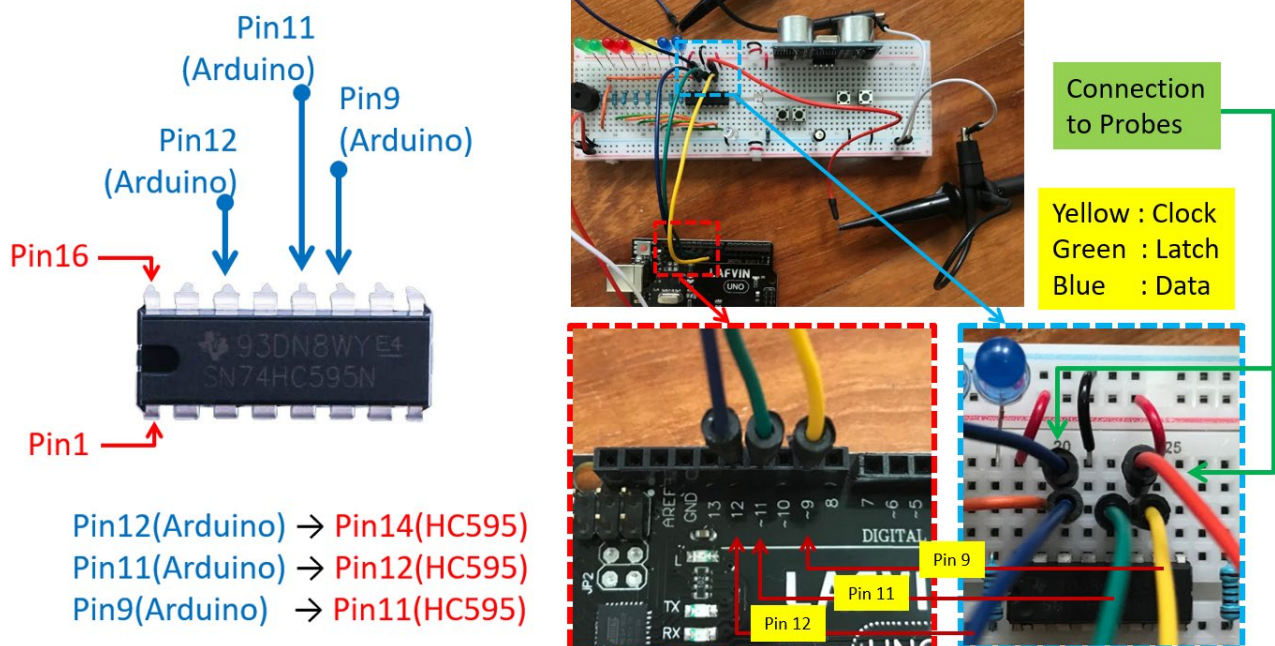

Fig. 19: Connecting Clock, Latch and Data signal of 74HC595 to Arduino Processor. Plus probe connections.
**#Task:** Connect the circuit as per Fig 19. You only need to connect the **Clock, Latch and Data line**. The power, ground and other control signals are already connected beforehand. This is shown as the **Yellow, Green and Dark Blue wires** in the Photo, note that the graphical illustration uses a different colour scheme. Also, probe the Clock and Data signal as shown in the photo in Fig 19. **Note: Pin9, 11 and 12 of Arduino should NEVER be connected directly to Ground or Vcc! The large current draw will damage the board and ICs.**
- Ensure that connection shown in Fig. 19 is done.